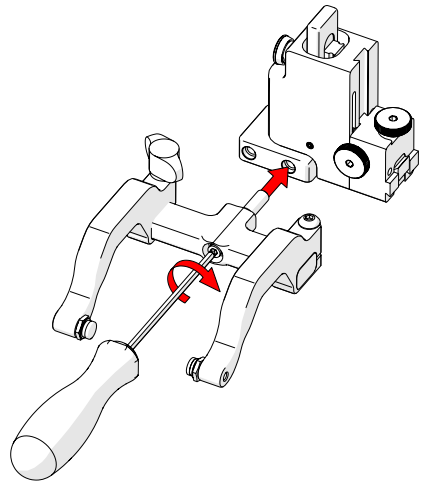

Fig. 102 - Screw into threaded hole
7. Screw the yoke to the probe holder (Fig. 102).